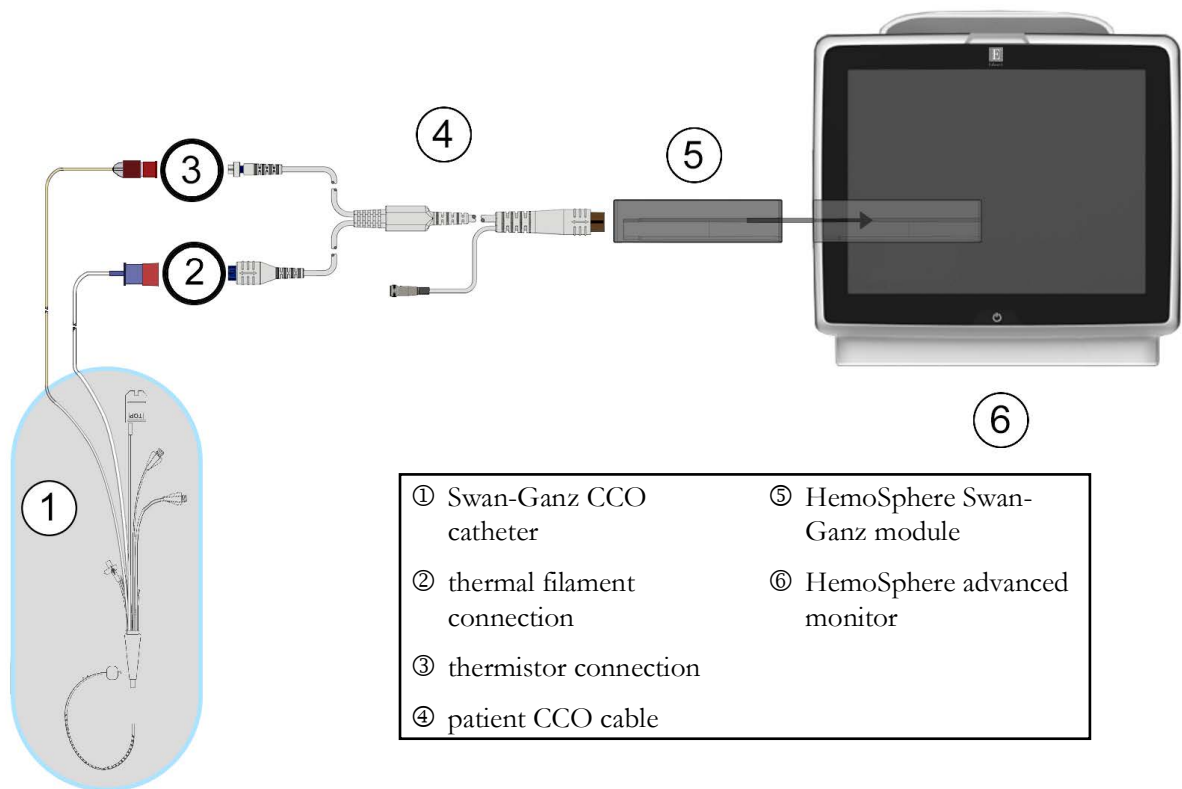

Figure 9-4 CO connection overview
- 2 Attach the catheter end of the patient cable to the thermistor and thermal filament connectors on the Swan-Ganz CCO catheter. These connections are emphasized as numbers ② and ③ in figure 9-4 on page 143.